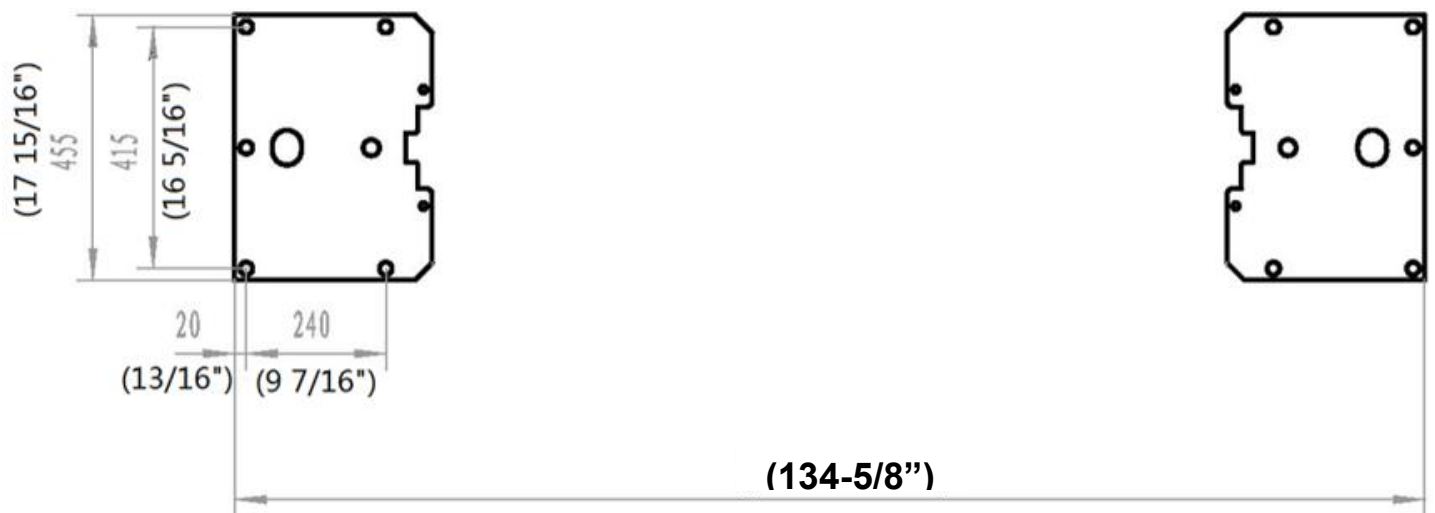

Fig. 4
3. Once a location is determined, use a carpenter's chalk line to layout a grid for the column locations. **(See Fig. 4)**